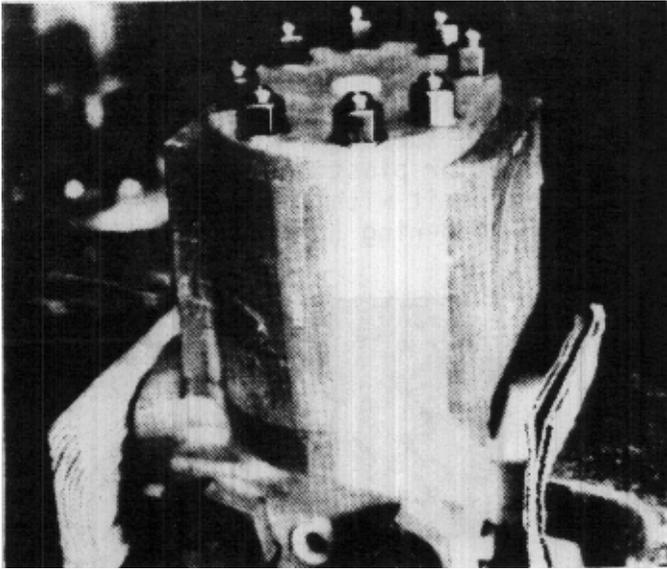

FIGURE 85
15. To disassemble the rear section, it will be necessary to reverse its position in the vise (rear end up). (Fig. 85)